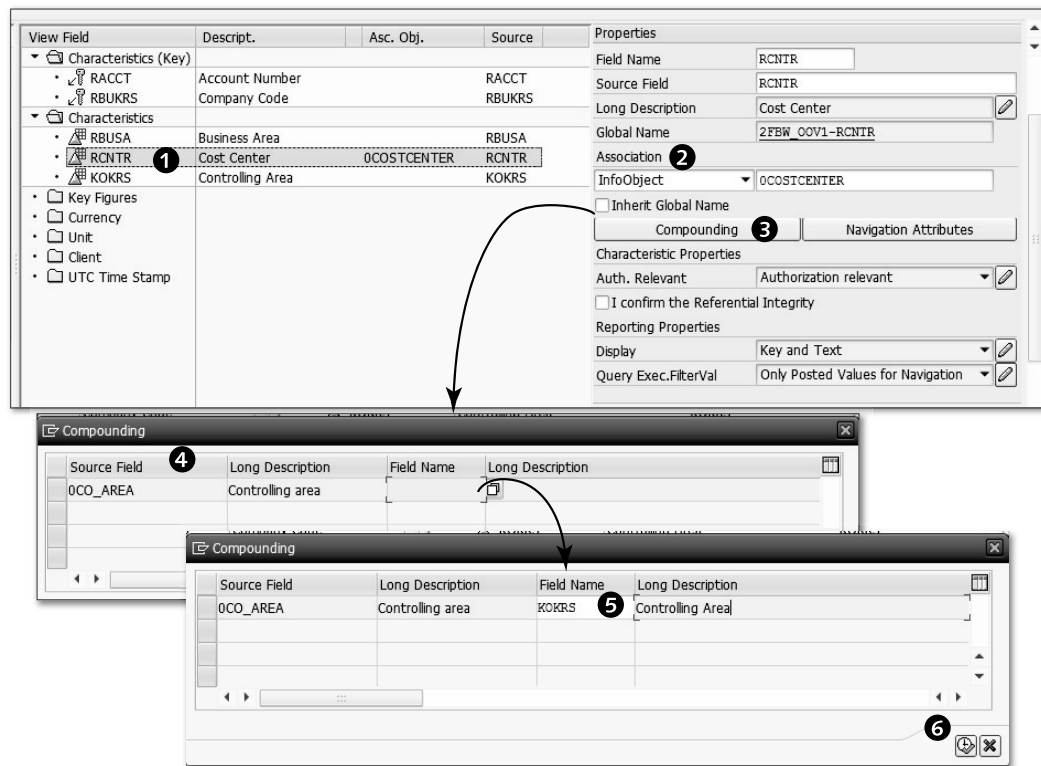

Figure 6.83 Setting Properties for a Field
As shown in Figure 6.83, you need to set the following fields when designing an OOV:
Now let's see how to associate a field with an InfoObject and how to set a few properties. Select the RCNTR field from the VIEW FIELD section, and open the PROPERTIES section (1 of Figure 6.83). In the ASSOCIATION dropdown, select INFO-OBJECT (2), enter "OCOSTCENTER", and press the [Enter] key. This associates Info-Object OCOSTCENTER to the RCNTR field, which activates the COMPOUNDING and NAVIGATION ATTRIBUTES buttons (3).